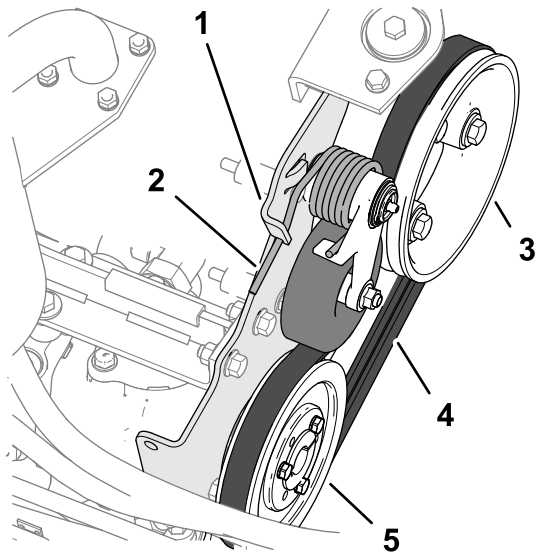

Figure 85
2. Push down the end of the belt-tension spring down and out of the notch in the tab of the pump mount, and move the spring end forward (Figure 85).